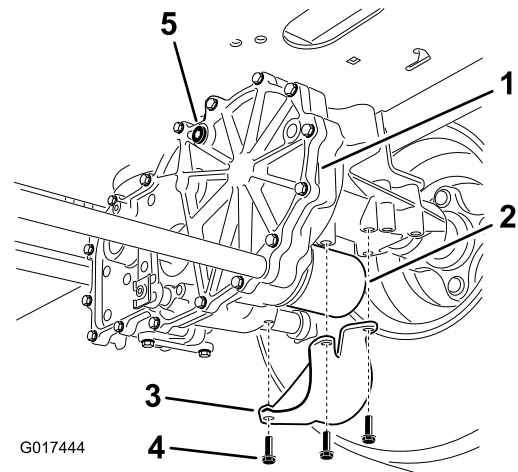

Figure 68
2. Locate the filter and guards on each transaxle-drive system (Figure 68).
3. Remove three screws securing the filter guard and guard (Figure 68).